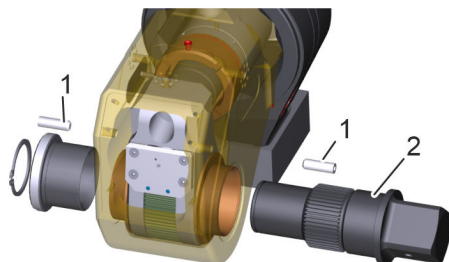
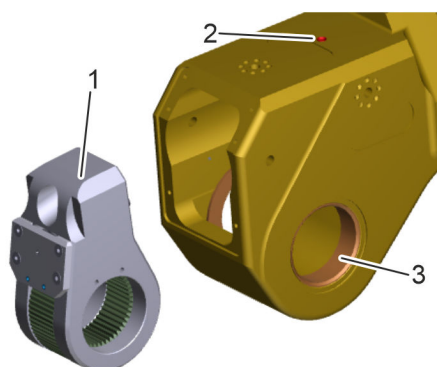
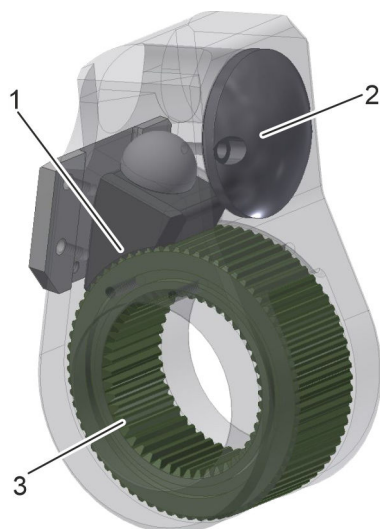

Fig. 39: LT: square drive
Fig. 40: LT: ratchet lever
Fig. 41: LT: ratchet lever
2. ➔ Dismantle (↪ 'Changing the square drive adapter' on page 39) the square drive adapter (Fig. 39/2) and unscrew the stud bolts (Fig. 39/1).
3. ➔ Take out the ratchet lever (Fig. 40/1).
4. ➔ Lubricate the mating area between ratchet lever (ball head) and piston (ball socket). Do so by letting lubricant drip from a grease gun into the ball socket through the lubrication point (Fig. 40/2).
5. ➔ Clean and grease the serration on the driver (Fig. 41/1) and toothed bushing (Fig. 41/3).
Fit the lubricated ratchet lever (Fig. 41) in the housing and lock it in position with the square drive adapter (Fig. 39) and bushing (Fig. 40/3).